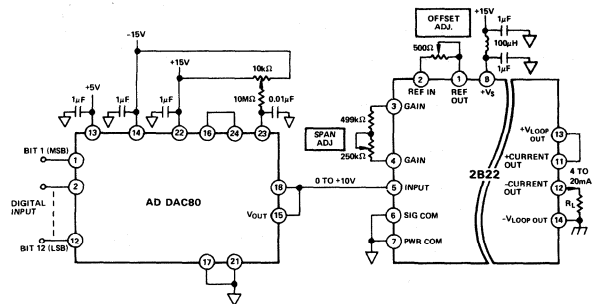

Figure 8. D/A Converter - Isolated 4 to 20mA Interface
**Isolated D/A Converter:** Model 2B22 offers total ground isolation and protection from high voltage transients in interfacing D/A converters to standard 4 to 20mA current loops. This requirement is common in a microcomputer-based control system. The voltage necessary to power the current loop can be derived from the same +15V supply that is used to power the D/A converter. The D/A converter, such as the 12-bit AD DAC80, should be connected for operation on the unipolar 0 to +10V output range. This is shown in Figure 8. After the load resistor connection has been made, the current loop can be calibrated using the offset and span adjustment potentiometers associated with the 2B22. First, a digital input code of all one's is loaded into the D/A, and the offset adjustment potentiometer is adjusted for a current output of exactly 4mA. Then, a digital code of all zero's is loaded into the D/A, and the span adjustment potentiometer is adjusted for a voltage across the load that corresponds to a current of 20mA less 1LSB (19.9961mA).